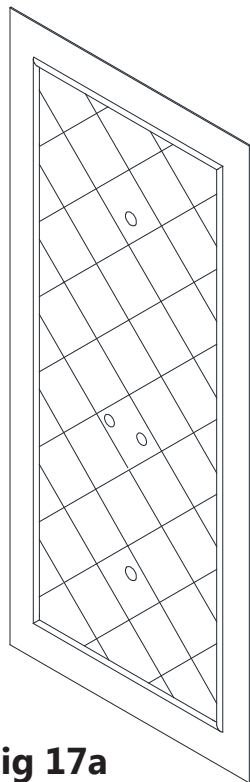
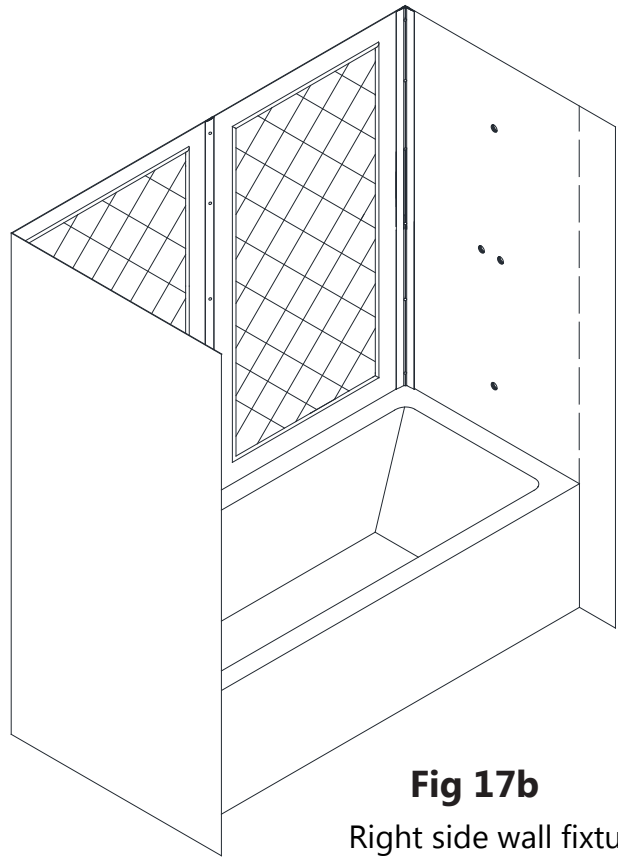

Fig 17a
Fig 17b
17. Transfer the fixture hole measurements (from **Step #4**) onto the **Side Panel (#01)** that will be installed onto the wall with the fixtures. Drill the holes in the **Side Panel (#01)** using the appropriate diameter hole saw or a handheld jig saw. (**Fig 17a and Fig 17b**)